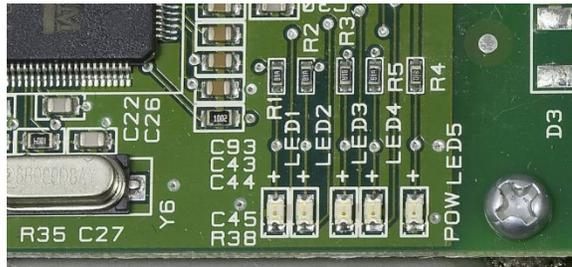

Figure 3-35: ACM500 Data LEDs Location (top) and detail (bottom)
6. Monitor the LEDs on the ACM500 main board as shown in Figure 3-35. If the ACM500 is connected properly and the IND500x/IND560x is programmed correctly, the LEDs will flash.